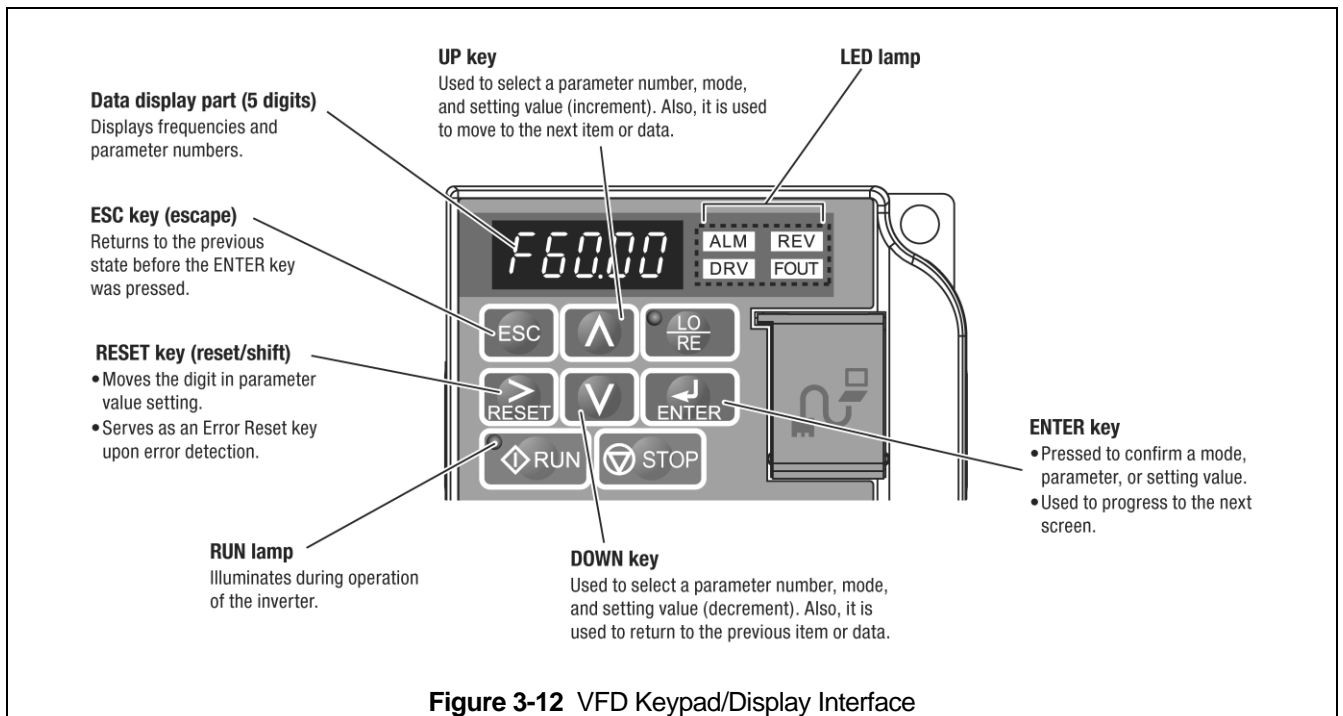

Figure 3-12 VFD Keypad/Display Interface
3.5.4 The VFD is controlled by a Keypad/Display Interface. Refer to **Figure 3-12** for Keypad/Display Interface functions and descriptions.